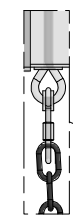
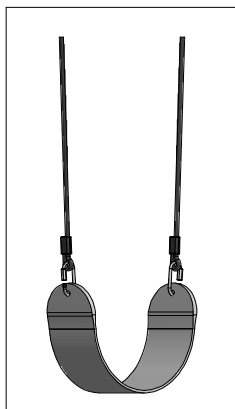

FIG. 2
FIG. 1
(2) UB - ROPE-CHAIN GREEN 33" - A100083
(6) FA - QUICK LINK - A100069
ATTACH FB SWING SEAT TO (2) ZP CHAINS USING (2) FA QUICK LINKS, AS SHOWN (FIG. 1). REPEAT PROCESS TO ASSEMBLE SECOND SWING ASSEMBLY. NOW, ATTACH ZP CHAINS TO SWING HANGER QUICK LINKS ALREADY ASSEMBLED TO THE SWING BEAM (FIG. 2).